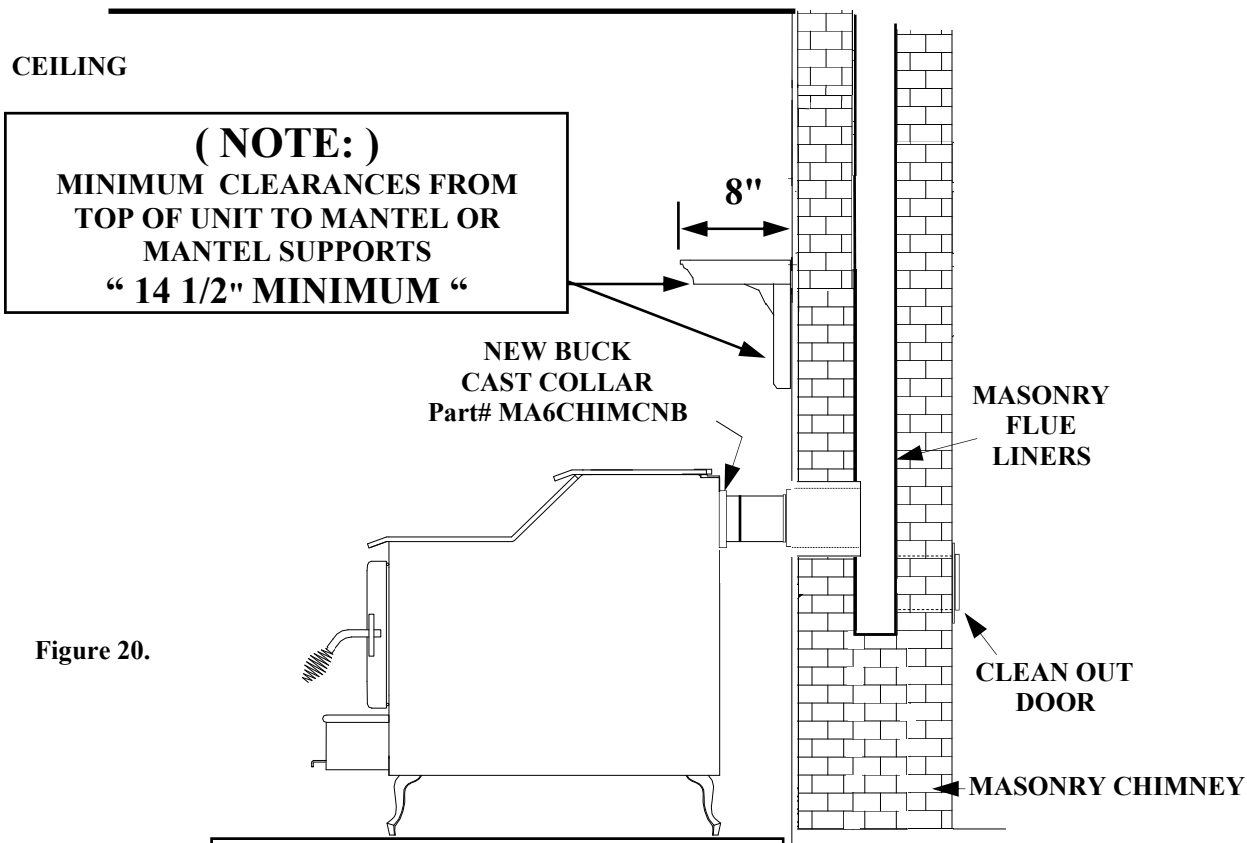

Figure 20.
- (c) Secure each section to each other using at least three (3) sheet metal screws or rivets.
- (d) Use three (3) sheet metal screws to fasten pipe to New Buck Cast Collar on heater. after New Buck Cast Collar Part# MA6CHIMCNB has been attached to stove. (See Page 25 Figure 20).